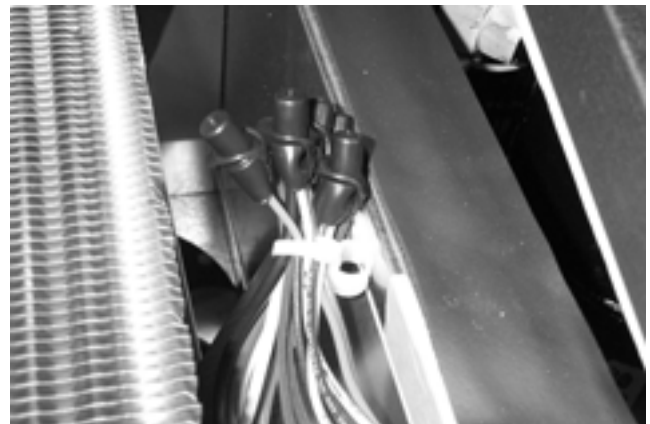
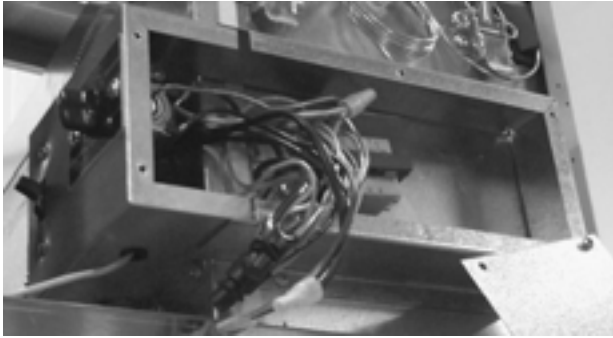

Figure 4-24
Figure 4-25
4. Disconnect coil heater wiring (Figure 4-24 on 1-section cabinets & Figure 4-25 on 2 and 3 section cabinets) and simply pull heater from coil mounting area.